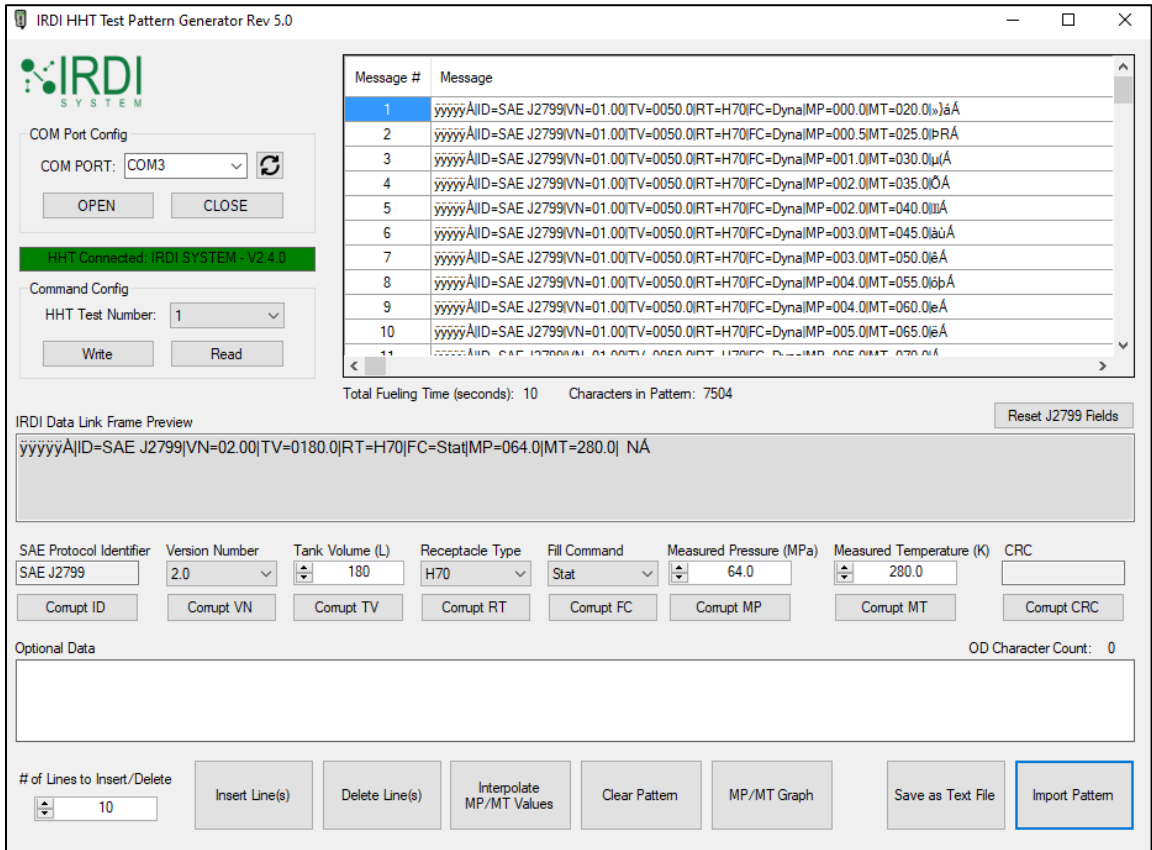

FIGURE 6-7 HHT TEST PATTERN GENERATOR SOFTWARE – FILE CONTENTS
STEP 4	View the imported test pattern in the upper right area of the HHT Test Pattern Generator screen – see Figure 6-7.